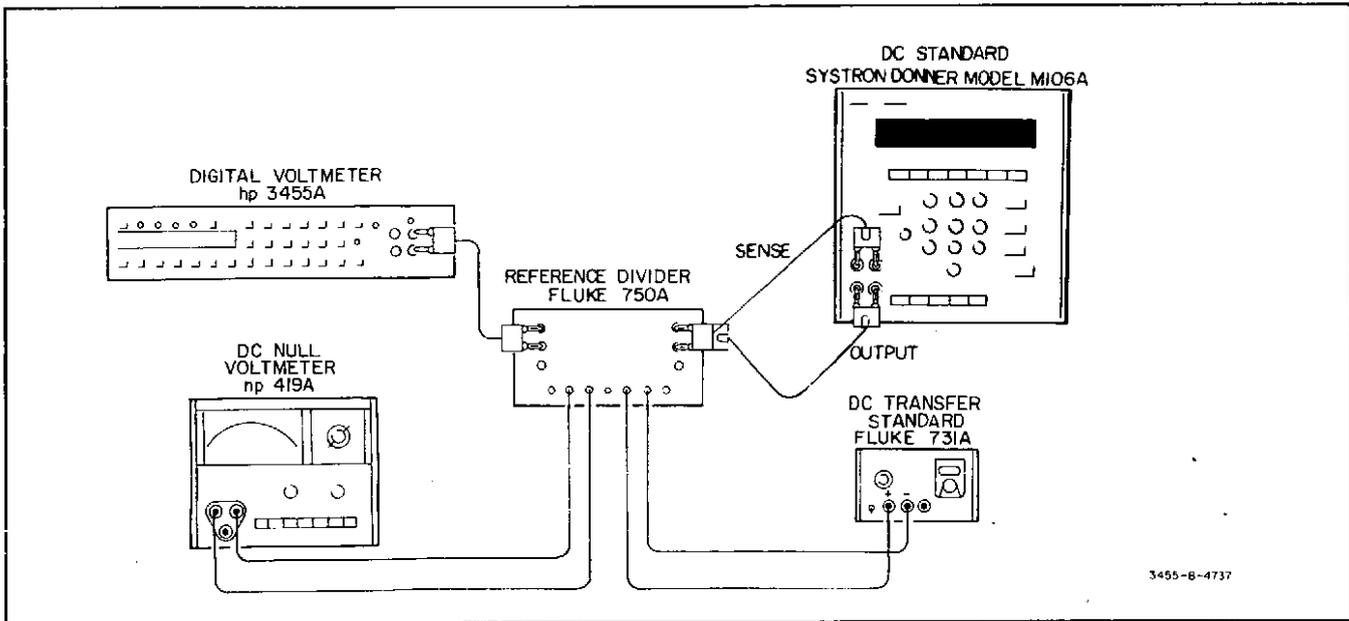

Figure 4-2. DC Accuracy Test.
k. Turn off the DC Standard's output. Using 24" (or shorter) shielded cables equipped with banana-plug connectors, connect the DC Standard and the 3455A to the Reference Divider as shown in Figure 4-2.